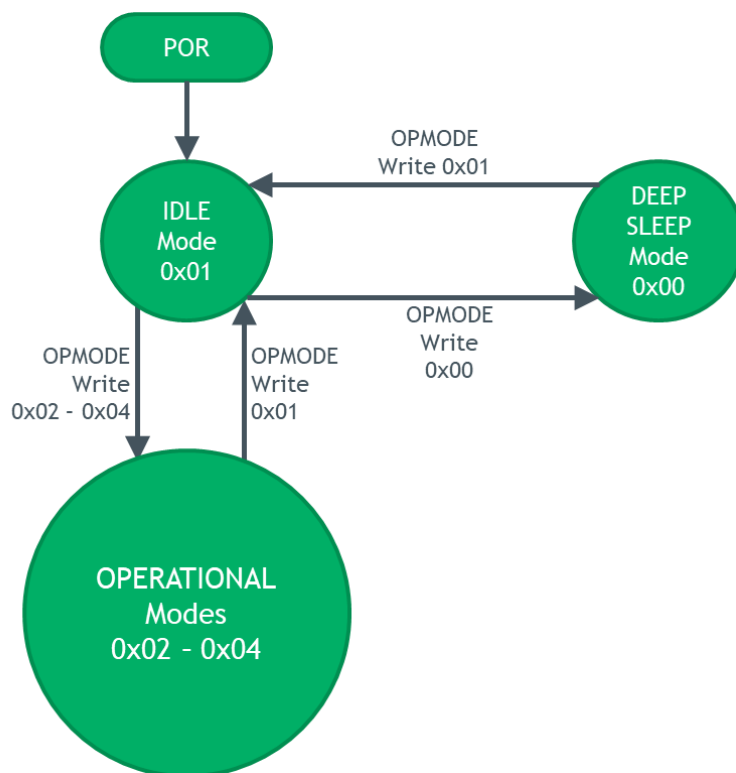

Figure 14: ENS161 state diagram
The ENS161 state diagram is depicted in Figure 14. At power-up, the ENS161 configures itself from a reset state and prepares for commands over the serial bus via either I²C or SPI Protocols.
- Before toggling between active operating modes (0x02 - 0x04), always include an interim IDLE step (0x01) as depicted in figure 14.